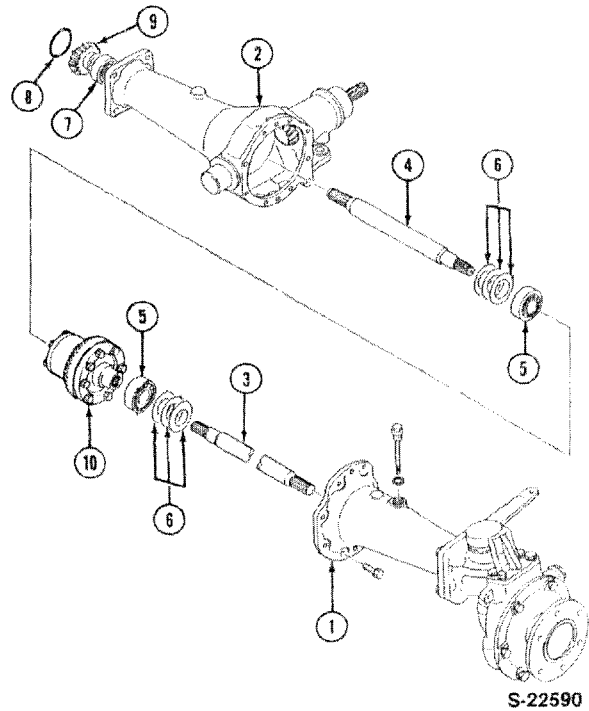

Figure 21
3. Remove the differential assembly (10), Figure 21, from the case.
NOTE: Observe the quantity and size shims between the axle shaft inner bearing and the axle housing, Figure 21.